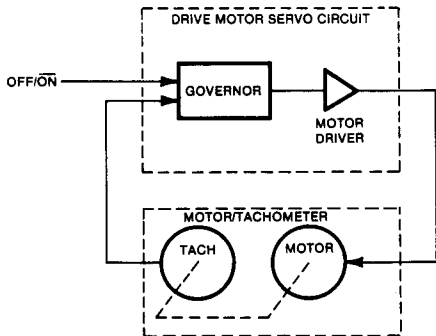

Fig. 7-48. Block diagram of drive motor servo circuit, Model 1542.
7.3.2 Drive Motor Servo Circuit (Refer to Figs. 7-48 and 7-49)